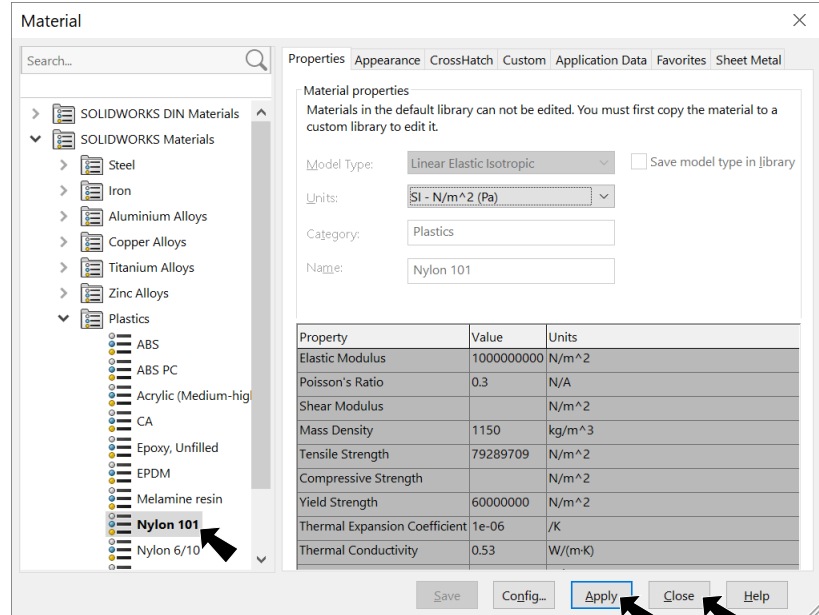

Fig. 9
under **Reference Name**, **Fig. 9**
Step 2. Expand **Plastics** in the material tree and select **Nylon 101**, **Fig. 9**. Click **Apply** and **Close**.